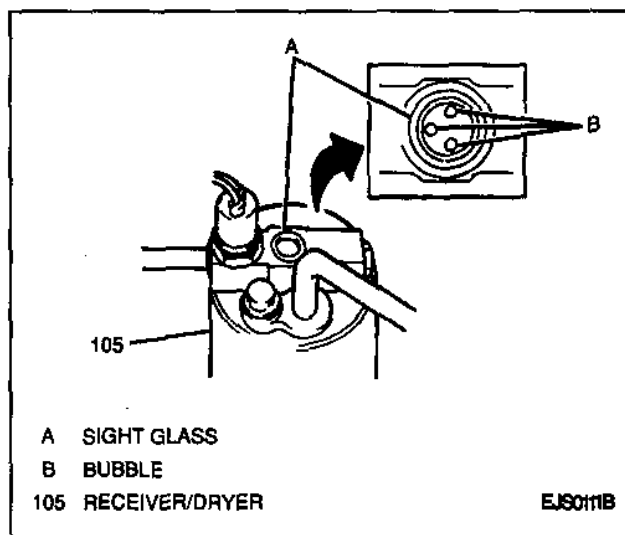

Figure 11—Receiver/Dryer Sight Glass
9. Check the sight glass in the receiver/dryer for bubbles (which would indicate a low refrigerant charge or moisture in the refrigerant) (Figure 11).